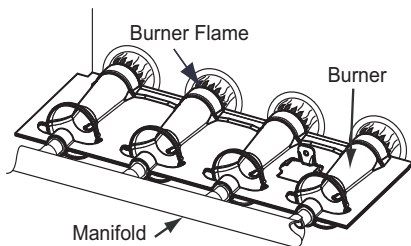

Fig. 5 – Burner Flame Adjustment
6. The burner flames are in good adjustment (see Fig. 5) (by comparison with pictorial sketches or drawings of the main burner flame).